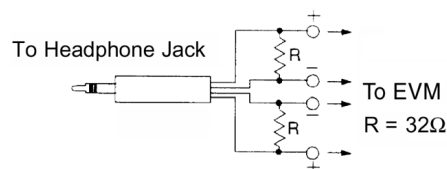

Fig. 2
1. Connect the measuring instrument as shown in Fig. 2.
3. Place the sensor on the laser power meter right on top of the optical pickup. (Fig. 2)